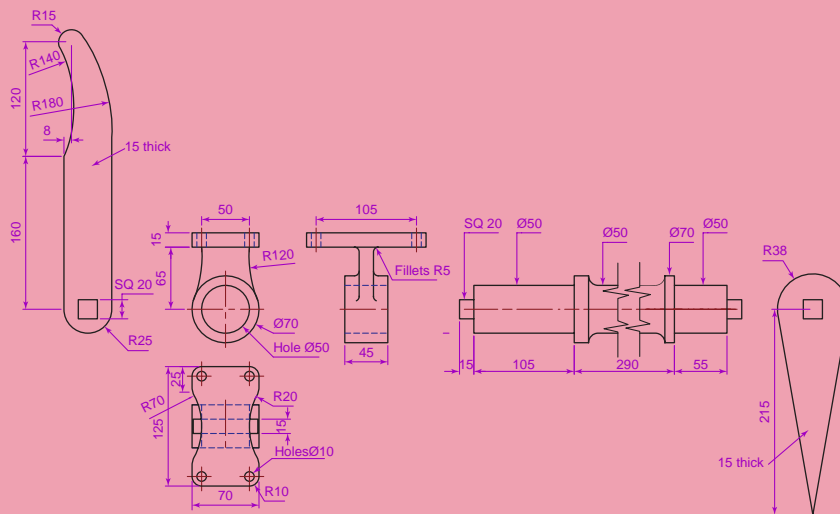
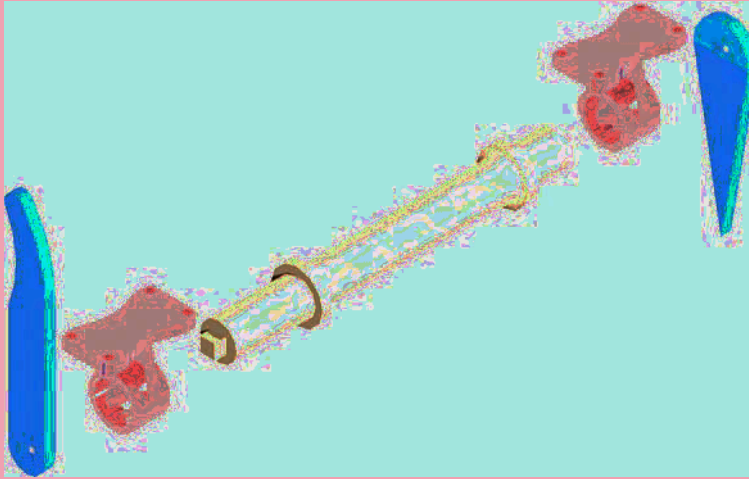

Fig. 19.24 Exercise 5 – details drawing
Fig. 19.25 Exercise 5 – exploded rendered view
- Working to the details shown in Fig. 19.24, construct an assembled 3D model, with the parts in their correct positions relative to each other. Then separate the parts as shown in the 3D rendered model drawing Fig. 19.25. When the 3D model is complete add suitable lighting and materials and render the result.